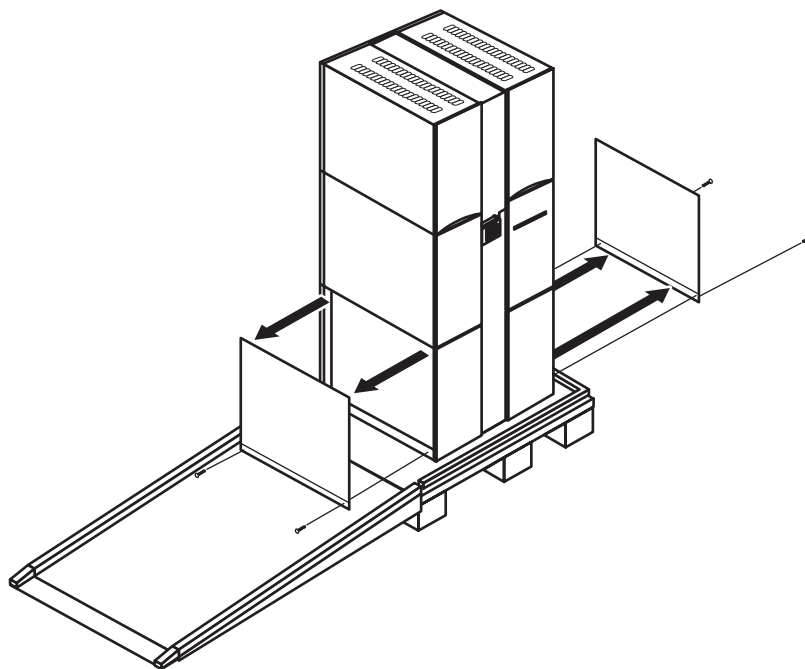

Figure 5: Removing the access panels
8. Using a Torx T-15 screwdriver, remove the screws securing the access panels to the lower right and left sides of the cabinet (see Figure 5).